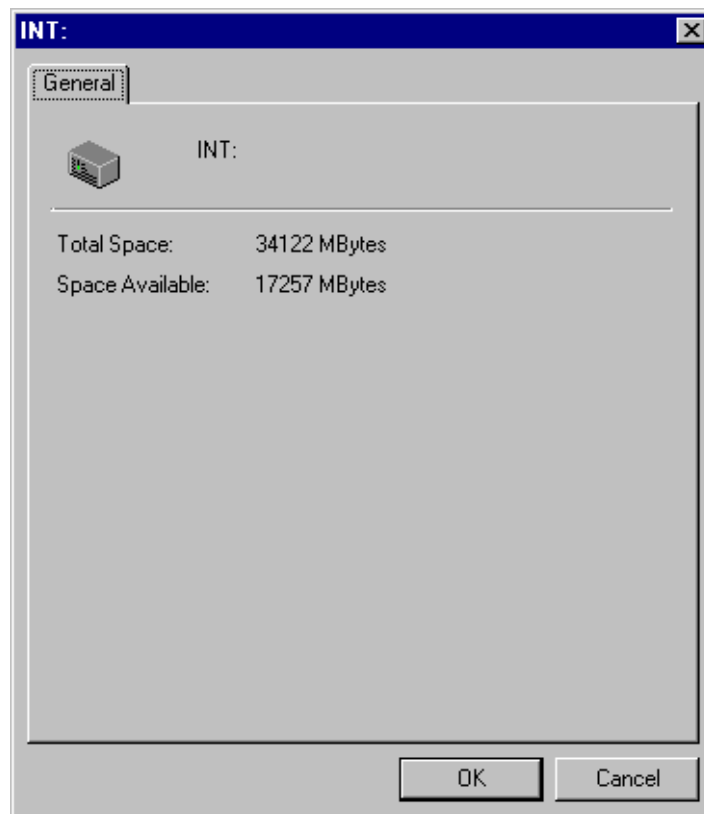

Figure 26. Properties dialog box for volumes
2. Choose **Properties** from the **File** menu or from the shortcut menu with a right-click. You can also click the **Properties** button on the toolbar. The Properties dialog box for volumes appears (see Figure 26).